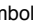

Fig. 142 Coolant expansion tank cap in the engine compartment.
- There is a  symbol on the cap of the engine coolant expansion tank ⇒ fig. 142.